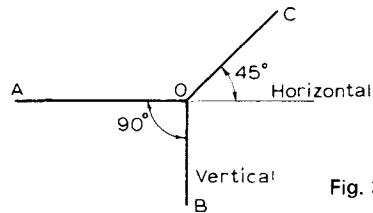

Fig. 3.137
**Oblique projection.** This is another way of representing objects pictorially. Fig. 3.137 shows the axes used. The axis AO is horizontal whilst axis BO is vertical. The axis